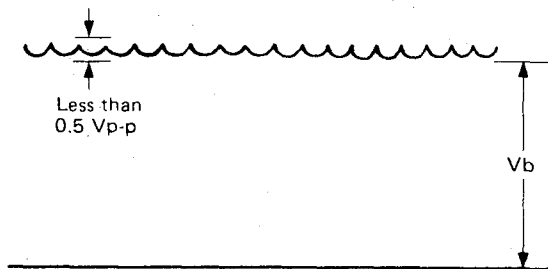

Figure 76.
2. Observe the output of TP-715 on oscilloscope (internal trigger), and check its value are as shown in Fig. 76.